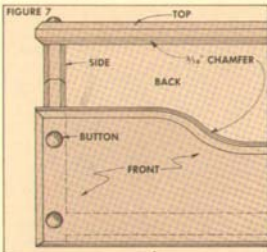

FIGURE 8
Now rabbets can be cut, leaving tongues to fit in the 1/4"-wide grooves in the sides, Fig. 8. (These tongues can be a little loose, because they will not be glued in the grooves in the sides.)
**THE BACK.** The back is joined to the sides with tongue and groove joints, see Fig. 8. The back is the same length as the bottom, including the extra 1/2" for the tongues.